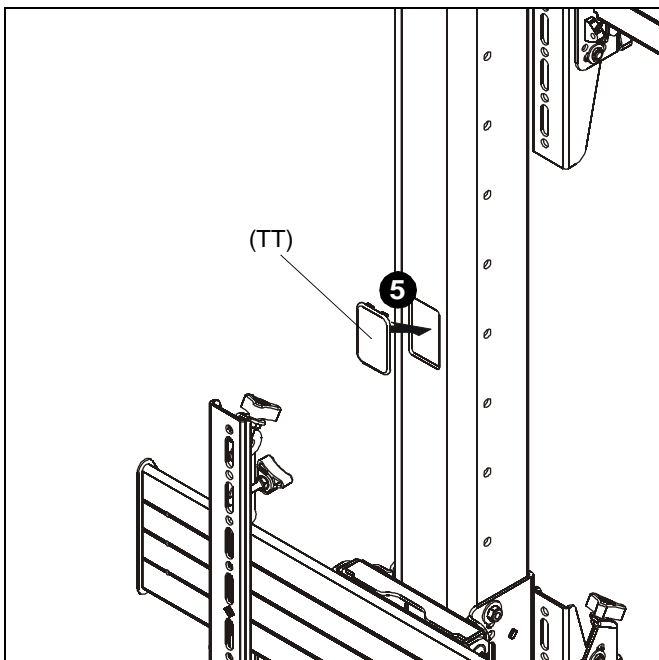

Figure 24
5. For any cable management holes that are not used, snap covers (TT) may be used to cover holes as desired. (See Figure 24)